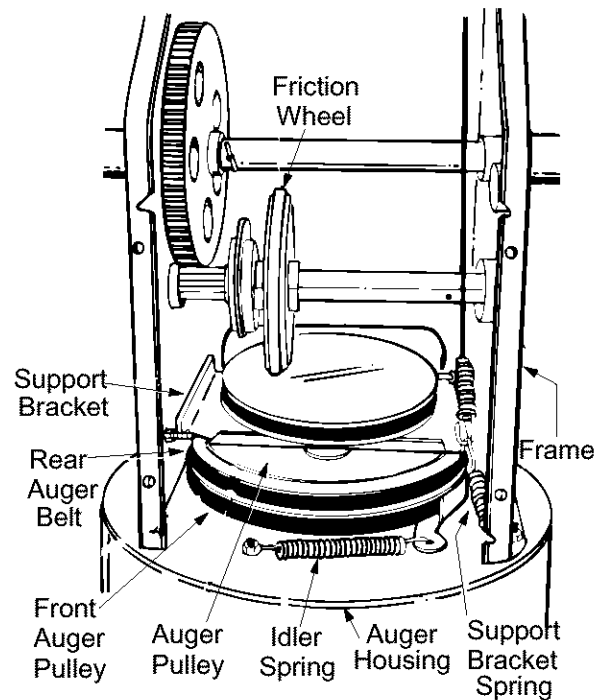

Figure 27
6. Unhook the idler spring from the hex bolt on the auger housing. See Figure 27.
8. Lift the rear auger belt from the auger pulley, and slip belt between the support bracket and the auger pulley. See Figure 27. Repeat this step for front auger belt (except models 600/610E).